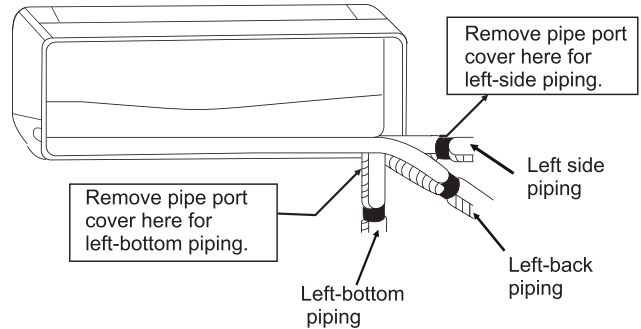

Fig 1
3. Wrap the inter-unit wire, refrigerant pipes, and drain hose together with insulation tape. (see Fig 1)
- Cut the pipe as straight as possible (See Fig 1.). Make sure to use a deburring tool to remove any burrs. Hold the pipe with opening facing down to prevent metal chips from entering the pipe (See Fig2.).